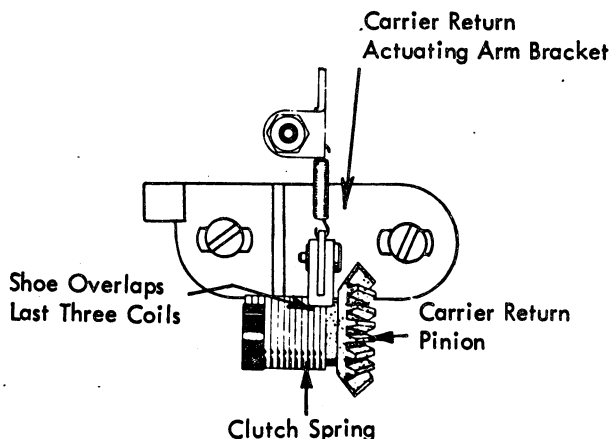

FIGURE 208. Carrier Return Shoe
5. **Carrier Return Shoe** - Adjust the carrier return actuating arm bracket left or right so that the carrier return shoe overlaps the last 3 coils on the right hand end of the clutch spring. Covering the last 3 coils insures that all the coils of the spring will be used in the clutch operation (Fig. 208).